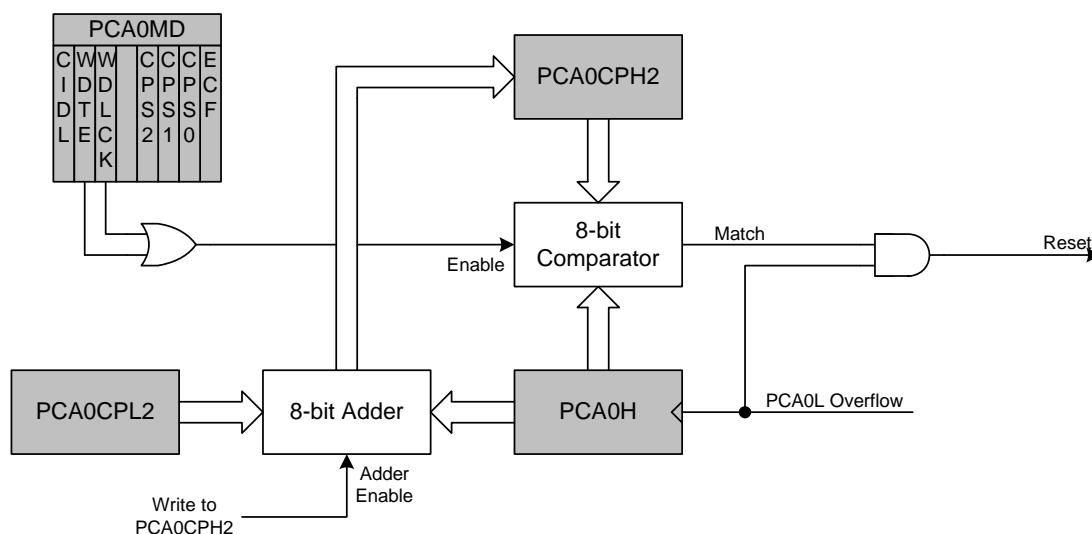

Figure 26.10. PCA Module 2 with Watchdog Timer Enabled
While the WDT is enabled, writes to the CR bit will not change the PCA counter state; the counter will run until the WDT is disabled. The PCA counter run control bit (CR) will read zero if the WDT is enabled but user software has not enabled the PCA counter. If a match occurs between PCA0CPH2 and PCA0H while the WDT is enabled, a reset will be generated. To prevent a WDT reset, the WDT may be updated with a write of any value to PCA0CPH2. Upon a PCA0CPH2 write, PCA0H plus the offset held in PCA0CPL2 is loaded into PCA0CPH2 (See Figure 26.10).